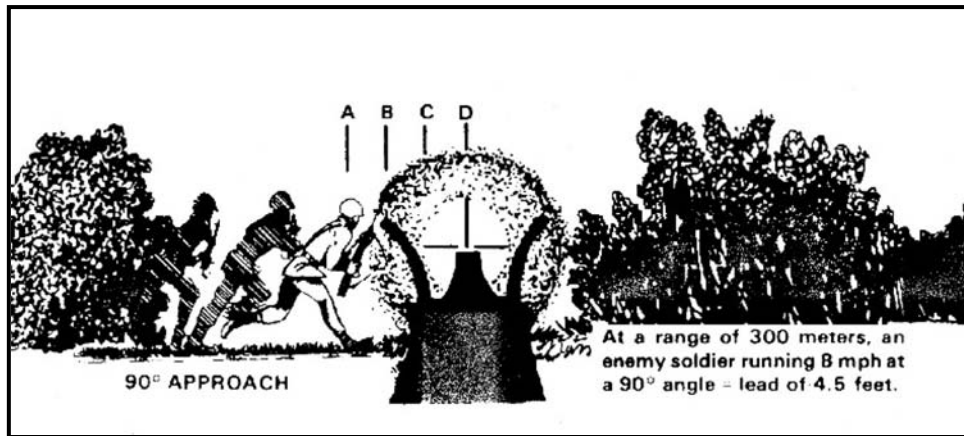

Figure 7-28. Lead requirement based on distance and approach angle.
a. **Lead Requirements.** To effectively engage moving targets on the battlefield, soldiers must understand lead requirements. Figure 7-28 shows the amount of lead required to hit a 300-meter target moving 8 miles per hour at a 90-degree angle. Aiming directly at the target would result in missing it. When an enemy soldier is running 8 miles per hour, 90 degrees to the firer, and at a range of 300 meters, he covers 4 1/2 feet while the bullet is traveling toward him. To get a hit, the firer must aim and fire at position D when the enemy is at position A. This indicates the need for target lead and for marksmanship trainers to know bullet speed and how it relates to the range, angle, and speed of the target. Soldiers must understand that targets moving fast and laterally must be led by some distance if they are to be hit.